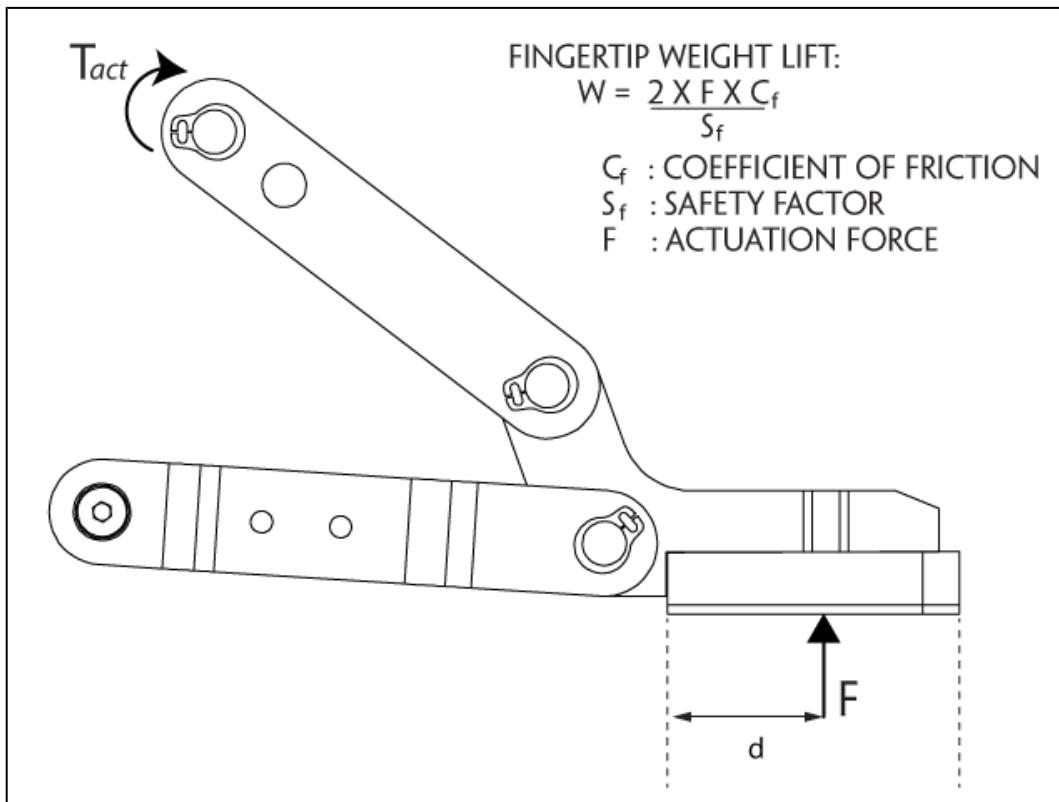

Figure 6.2.1 : Actuation force on the fingertip of the Adaptive Gripper 2-Finger (see charts below for 2-Finger 85 and 2-Finger 140 force).
Actuation force model used to calculate recommended payload is described in Figure 6.2.1, the user must not exceed the force (F) and torque (T) limits :
As defined in Figure 6.2.1, the weight that can be lifted is defined by :